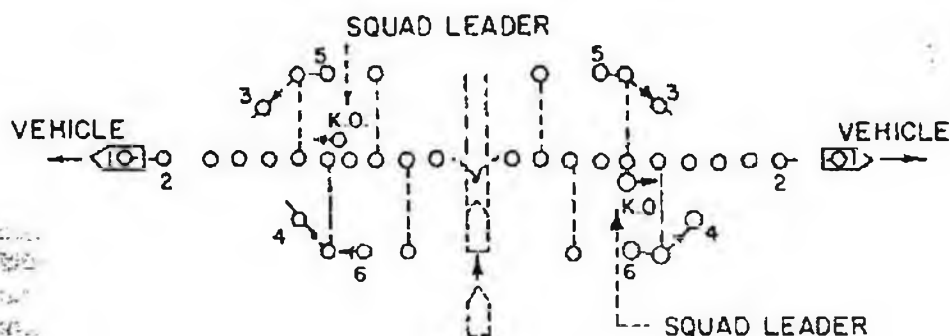

Figure 7-8. Soviet two-team minefield laying.
d. If conditions permit, the mines are buried and camouflaged. In this case two more men are needed. If a platoon is used to lay the minefield, one squad is used to reconnoiter the area, mark the minefield boundaries, and lay out the reference lines. The two remaining squads (fig. 7-8) lay the mines in their assigned areas. With the use of a vehicle, a squad can lay, bury, and camouflage 200 antitank mines in 15-20 minutes.